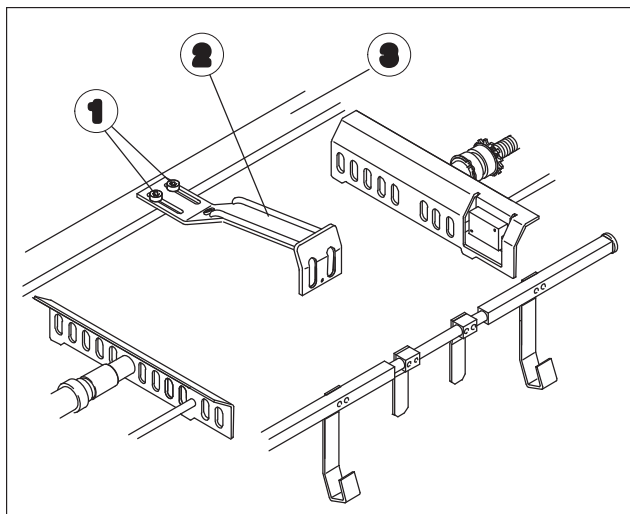

Fig. 60 Rear sheet stop
The sheet stop at the rear edge of the delivery pile (Fig. 60/2) must be moved towards the lead edge of sheet with sheet lengths less than 140 mm.
1. Using the operator tool loosen the two Allen screws (Fig. 60/1).
2. Pull the rear edge stop (Fig. 60/2) towards the lead edge of sheet up to the stop.
3. Using the operator tool retighten the Allen screws (Fig. 60/1).
4. Using the crank handle position the rear sheet stop (Fig. 60/2) against the rear edge of pile.
1. Loosen the two Allen screws (Fig. 60/1).
2. Slide the rear edge stop on the cross bar (Fig. 60/3) away from the delivery pile up to the stop.
3. Tighten the two Allen screws (Fig. 60/1).